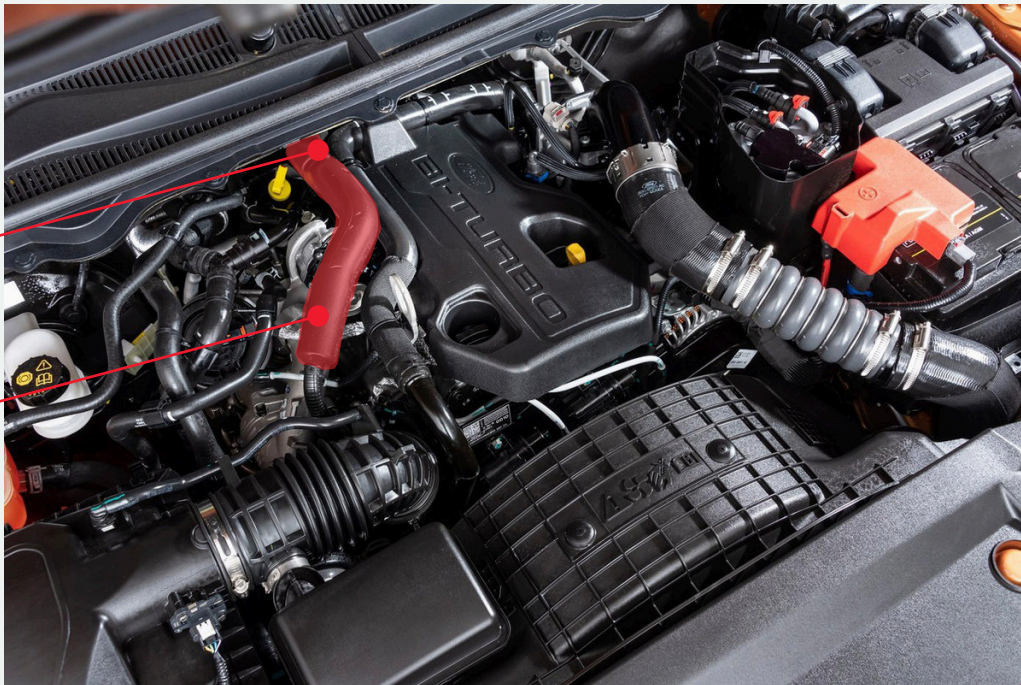

FIGURE 3
- 3 Remove factory PCV hose by lifting the locking collars and pulling upwards. The PCV hose is connected to the PCV valve located at the top of the engine at rear drivers side corner, and to the air intake towards the front of the engine bay as per FIG. 3 below.